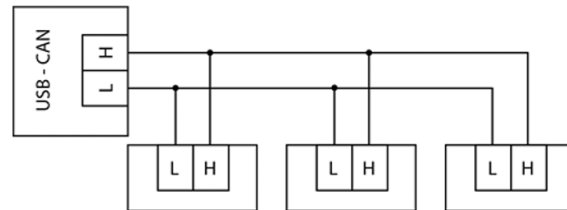
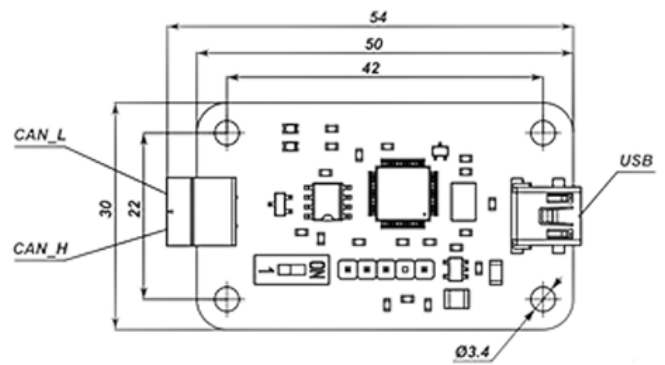

Figure 7: CAN interface connection scheme
Figure 8: USB-CAN hub
2. Connect up to 200 drivers into the CAN network by using the CAN hub. Connect up to 200 drivers into the CAN network (fig. 7) by using the CAN hub (fig. 8).